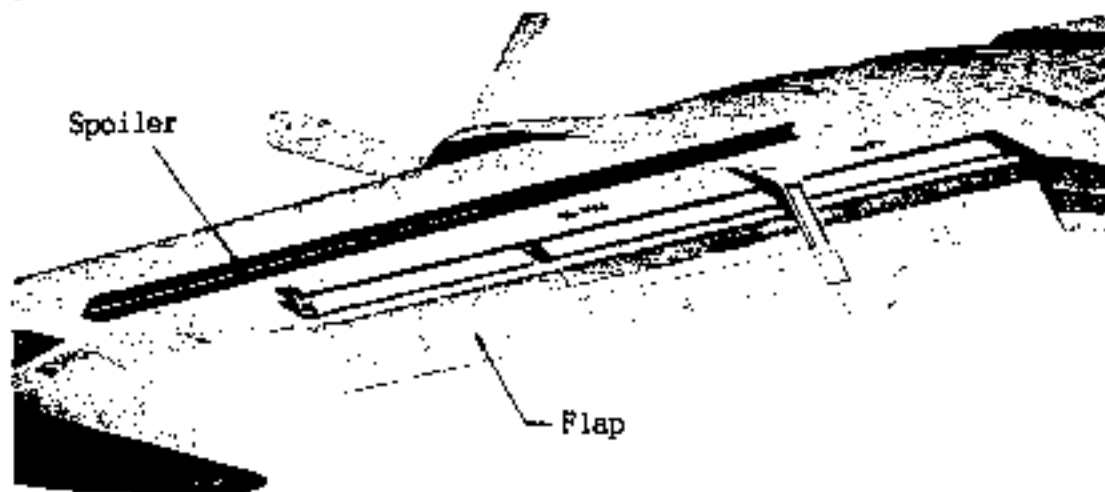

Fig 3-1 Flap & spoiler
2.1.2 FLAP (See Fig 3-1)
2.1.3 SPOILER (See Fig 3-1)